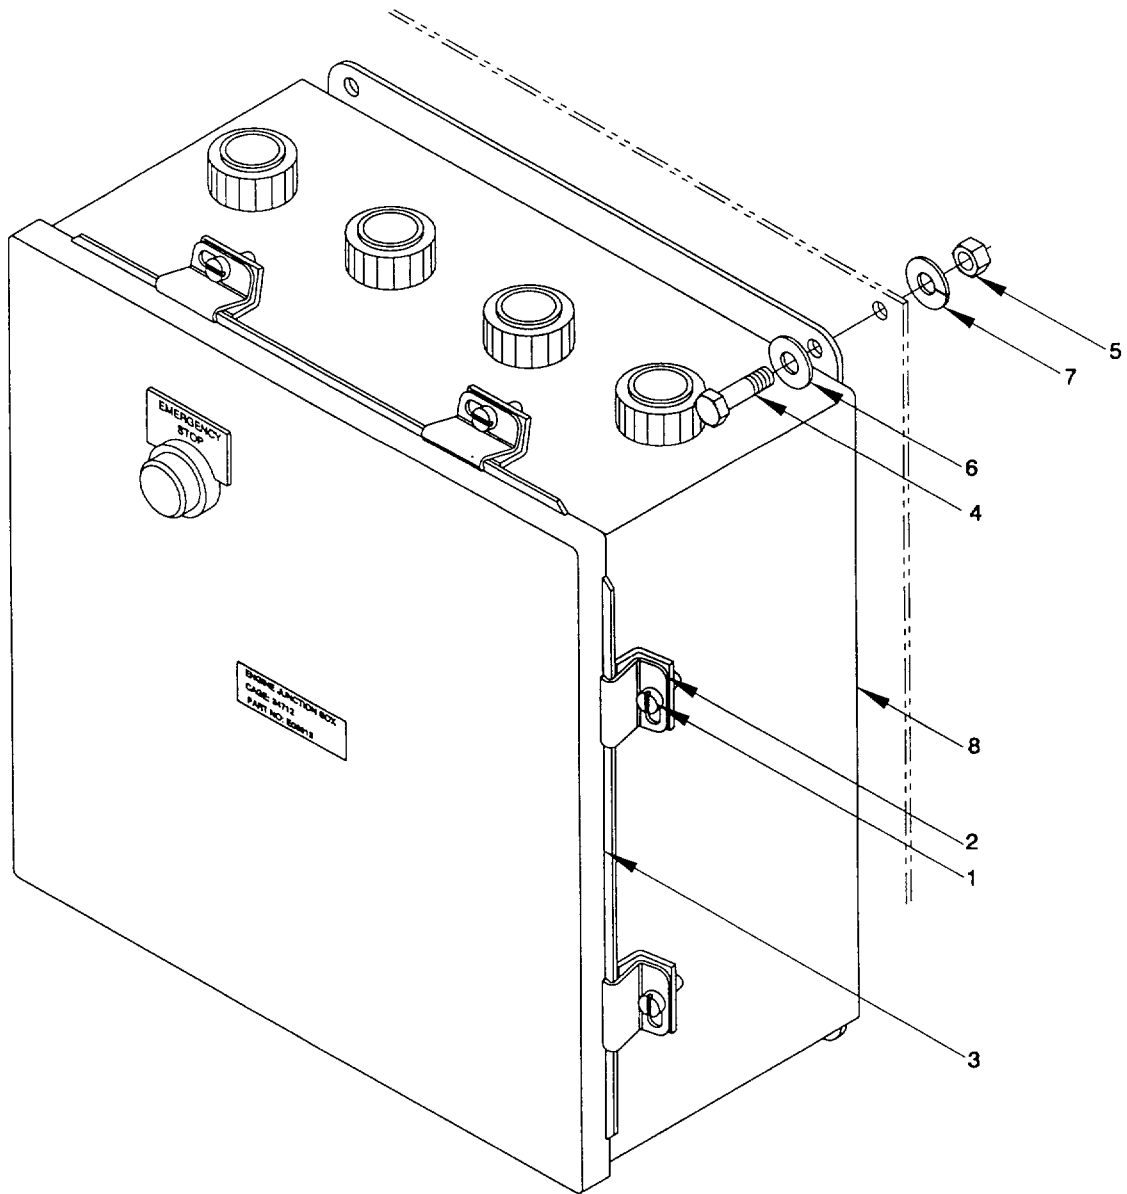

Figure 2-54. Engine Junction Box "A4", Remove/Install
- a. *Remove.* (figure 2-54)
- (1) Remove six screws (1) and six clamps (2) securing cover (3) to enclosure (8). Swing cover (3) open.
- (2) Disconnect and tag electrical wiring to engine junction box. Refer to Appendix G.
- (3) Remove four hex head capscrews (4), four hex nuts (5), four flat washers (6) and four lock washers (7) securing enclosure (8). Remove engine junction box.
- (1) Visually inspect all junction box components for corrosion, damage, and loose, frayed or broken electrical wiring.
- (2) Check that door moves freely and that Emergency Stop is operable. Tighten any loose components.
- c. *Install.* (figure 2-54)
- (1) Apply antiseize compound to capscrews (4) and screws (1).
- (2) Position new engine junction box and secure with four hex head capscrews (4), four flat washers (6), four lock washers (7) and four hex nuts (5).
- (3) Reconnect electrical wiring, as tagged, to engine junction box. Refer to Appendix G. Use tie wraps to secure any loose wires.
- (4) Close cover (3) and secure with six clamps (2) and six screws (1).